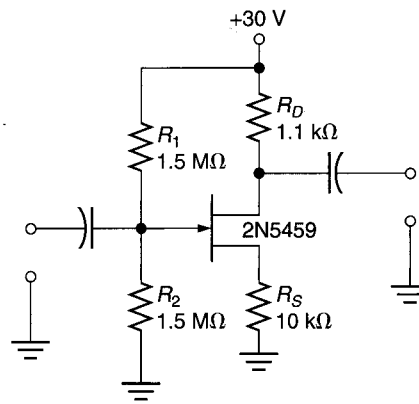
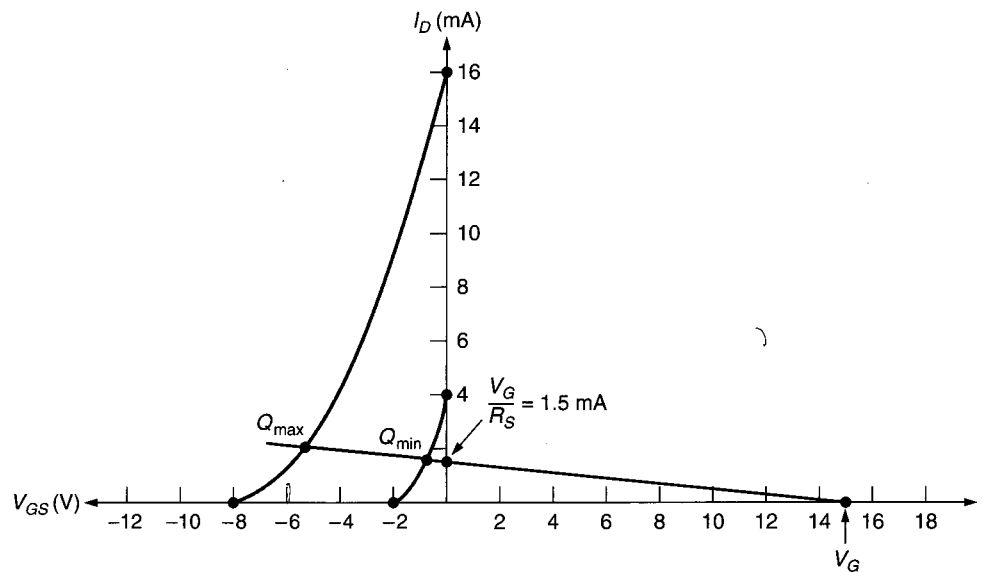
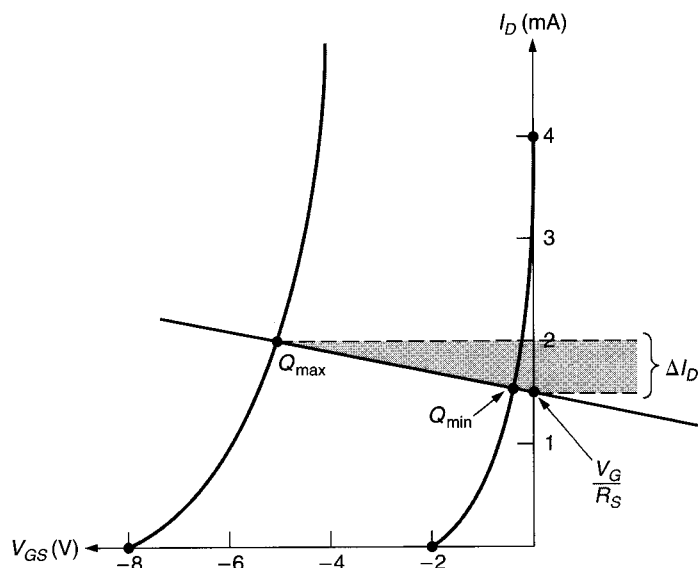

FIGURE 12.26
FIGURE 12.27 The voltage-divider bias dc bias line.
FIGURE 12.28 A close-up of Figure 12.27.
Plot the dc bias line for the circuit shown in Figure 12.26.
**Solution:** Figure 12.26 contains the 2N5459, the JFET whose transconductance curves were plotted in Example 12.6. Those transconductance curves can be seen in Figure 12.27. The value of  $V_G$  for the circuit is calculated as
This point is now plotted on the *positive*  $x$ -axis, as shown in Figure 12.27. The value of  $V_G$  is also used to find the  $y$ -axis intercept point as follows:
Figure 12.27 shows that the stability of  $I_D$  has improved a great deal. Figure 12.28 shows a close-up of the lower portion of Figure 12.27 to help illustrate this point. While  $V_{GS}$  is varying between approximately  $-5$  and  $-0.5 \text{ V}$ ,  $I_D$  varies only from  $2 \text{ mA}$  to approximately  $1.5 \text{ mA}$ . Thus, this amplifier provides a much more stable value of  $I_D$  than
Example 12.8 gave minimum and maximum  $Q$ -point values for Figure 12.26 as
Determine the minimum and maximum values of  $V_{DS}$  for the circuit shown in Figure 12.26.